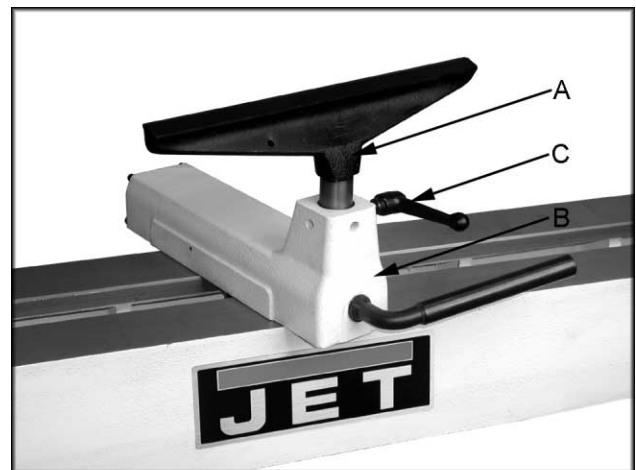

Fig. 1
1. Secure tool rest (A, Fig. 1) to tool rest body (B, Fig. 1) by tightening handle (C, Fig. 1).